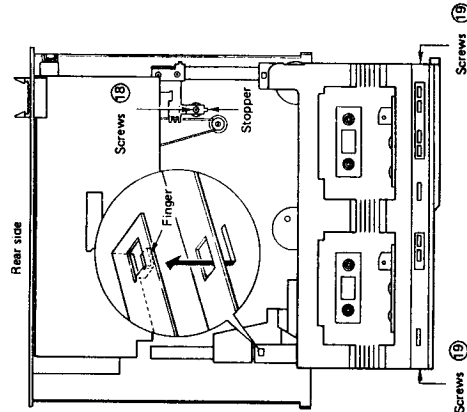

Fig. 14
- 3) As shown in Fig. 14, remove the screw (18), remove the stopper securing the sliding mechanism of the cassette holder, and pull the cassette holder forward.
- 4) Remove the two screws (19) on the left and right sides of the cassette holder.